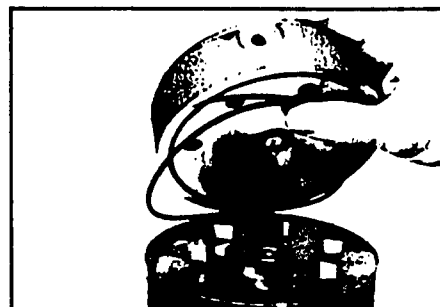

Figure 7
4. Remove end cover assembly (2) and seal ring (4). Discard seal ring. SEE FIGURE 7.